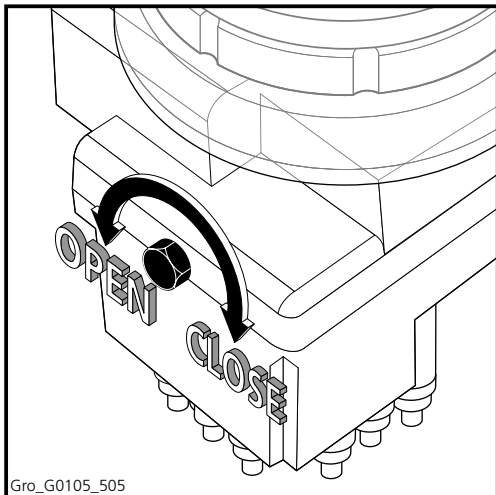

Figure 5.6 Venting screw
2. Open the venting screw (Figure 5.6).
4. Close the venting screw (Figure 5.6).
1. Open the venting screw (Figure 5.6).
3. Close the venting screw (Figure 5.6) as soon as only grease exits the vent opening.